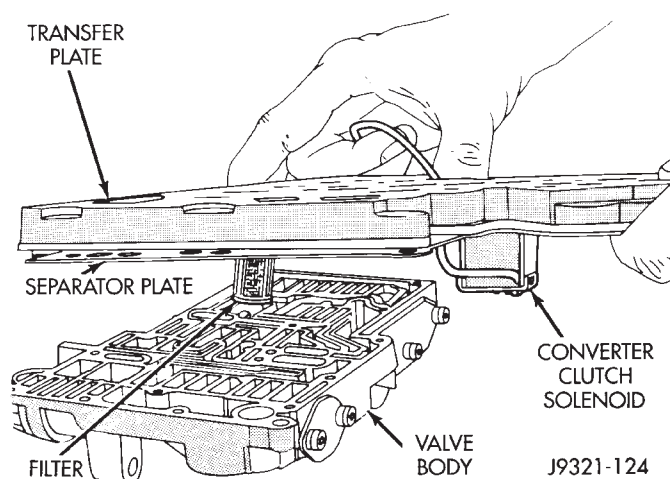
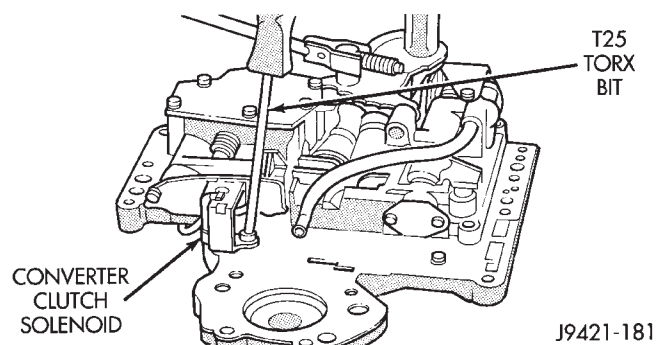

Fig. 108 Transfer Plate Removal/Installation
Fig. 109 Converter Clutch Solenoid Removal
(12) Remove transfer plate and separator plate from valve body. Note position of filter and clutch solenoid for reference (Fig. 108).
(13) Position transfer plate on bench so separator plate, filter and lockup solenoid are facing up. This will avoid having rear clutch and rear servo check balls fall out when plates are separated.
(14) Remove screws attaching separator plate to transfer plate.
(15) Remove converter clutch solenoid from separator plate (Fig. 109). A T25 torx bit is required to remove solenoid attaching screw.
(9) Assemble regulator valve line pressure plug, sleeve, throttle plug and spring (Fig. 108). Insert assembly in valve body and install end plate. Tighten end plate screws to 4 N·m (35 in. lbs.) torque.